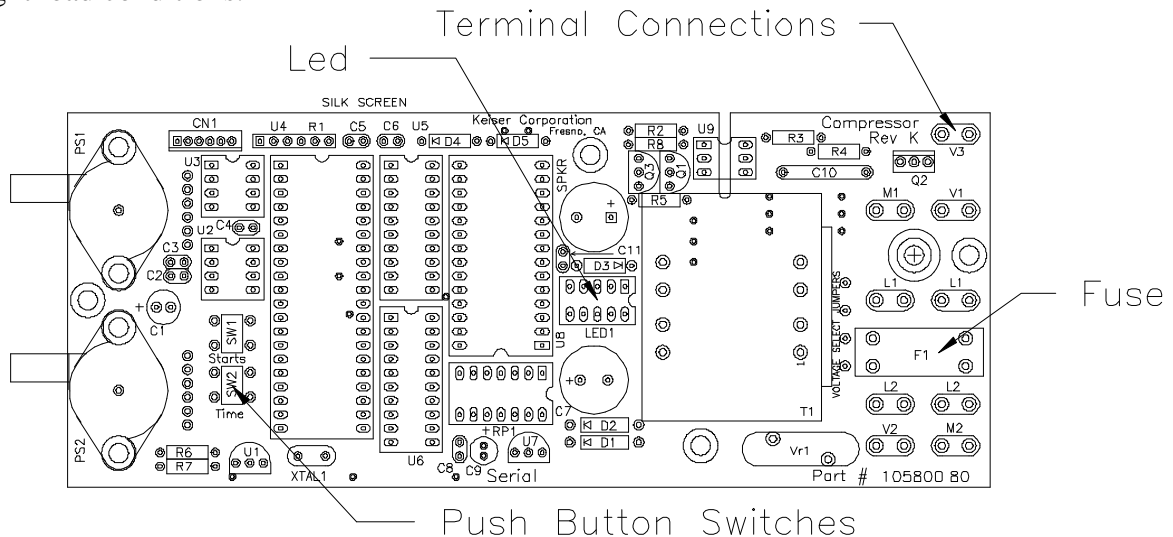

Figure 3 (Typical)
- The computer controls system (CCS) controls and regulates the compressor’s motor. It monitors the pressure system and aids in troubleshooting when it senses a problem. If the CCS senses an irregular condition, it will display a system error code on the LED, located on the circuit board. If the CCS senses a serious condition, the CCS will shut that section of the system down and flash an error code on the LED (figure 3). All codes are explained in the troubleshooting section of this manual.